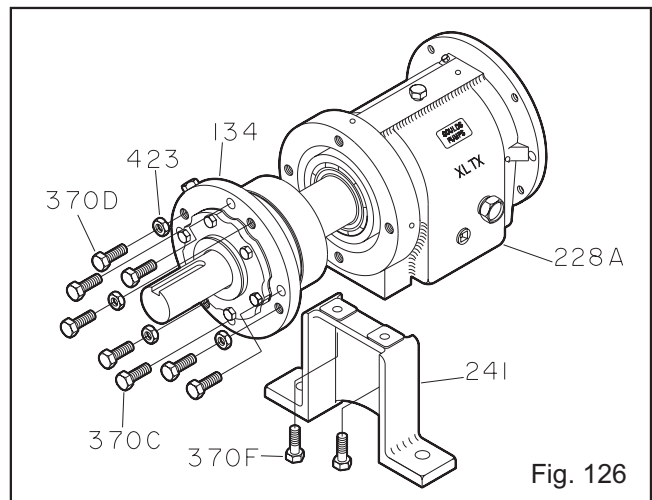

Fig. 126
- Install shaft assembly into frame (228A). Check shaft for free turning (Fig. 126).
- Install clamping bolts (370C) into bearing housing (134). Hand tighten.
- Install jacking bolts (370D) with locking nuts (423) into housing (134). Hand tighten.
- Attach bearing frame foot (241) with bolts (370F). Hand tighten.